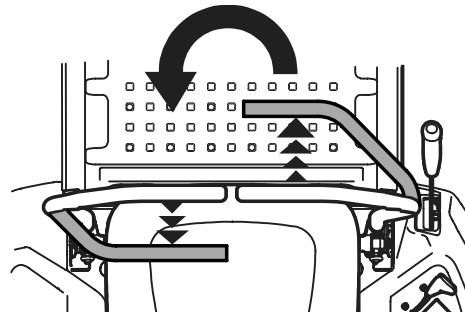

Figure 29
3. To turn counter-clockwise, move the lapbar right drive control lever forward while simultaneously moving the left lapbar drive control lever rearward (Figure 29).